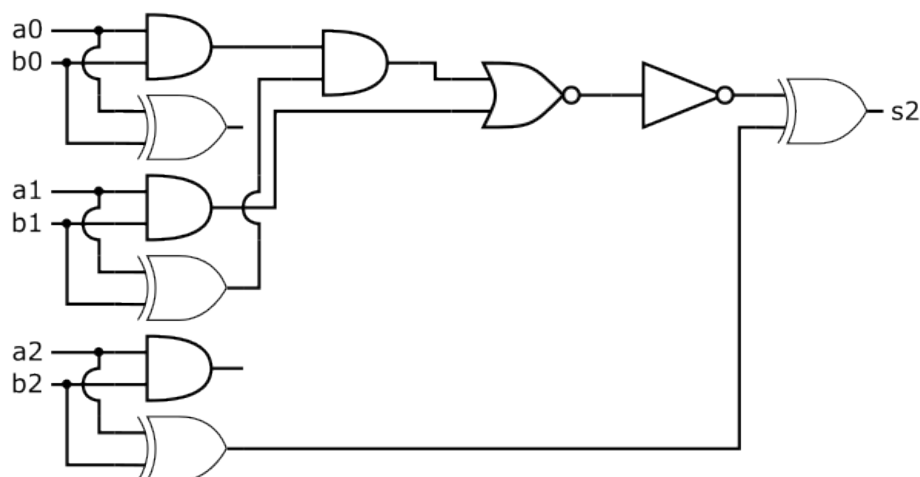

Figure 4: reduced circuit to test sa faults for s2
2. Use the D-algorithm to find test vectors to detect Sa0 and Sa1 for node s2. Hint: the involved gates are drawn in figure 4.